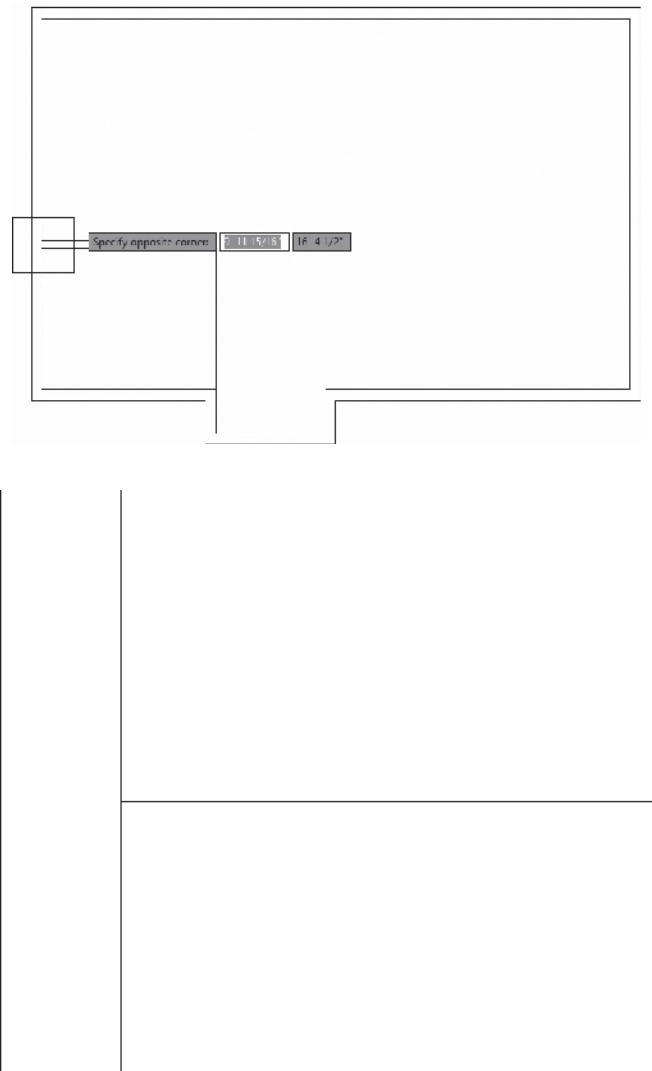

FIGURE 4.22 Using the Zoom Window option: positioning the rectangle (top) and the new view after the ZOOM command (bottom)
2. Move the cursor up and to the right, and notice a rectangle with solid lines being drawn. Keep moving the cursor up and to the right until the rectangle encloses the upper T-intersection (see the top of Figure 4.22).
When the rectangle fully encloses the T-intersection, click again. The view changes to a closer view of the intersection of the interior and exterior walls (see the bottom of Figure 4.22).